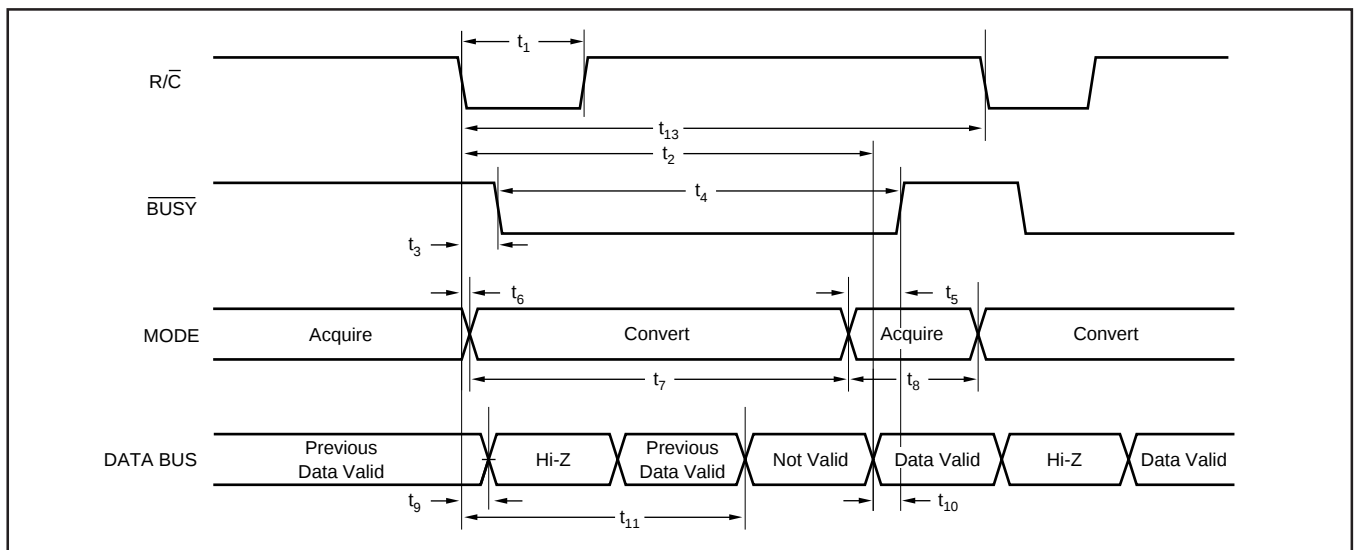

FIGURE 3. Conversion Timing with Outputs Enabled after Conversion ($\overline{CS}$ Tied LOW).
Table II for a summary of $\overline{CS}$, $\overline{R/\overline{C}}$, and $\overline{BUSY}$ states and Figures 3 through 5 for timing diagrams.
NOTE: (1) See Figures 3 and 4 for constraints on data valid from conversion "n-1".
After conversion 'n' is completed and the output registers have been updated, $\overline{BUSY}$ (pin 26) will go HIGH. Valid data from conversion 'n' will be available on D15-D0 (pins 6-13 and 15-22). $\overline{BUSY}$ going HIGH can be used to latch the data. Refer to Table IV and Figures 3 to 5 for timing specifications.
After conversion 'n' has been initiated, valid data from conversion 'n – 1' can be read and will be valid up to $7\mu s$ after the start of conversion 'n'. Do not attempt to read data from $7\mu s$ after the start of conversion 'n' until $\overline{BUSY}$ (pin 26) goes HIGH; this may result in reading invalid data. Refer to Table IV and Figures 3 to 5 for timing specifications.
The number of control lines can be reduced by tying $\overline{CS}$ LOW while using $\overline{R/\overline{C}}$ to initiate conversions and activate the output mode of the converter (see Figure 3).